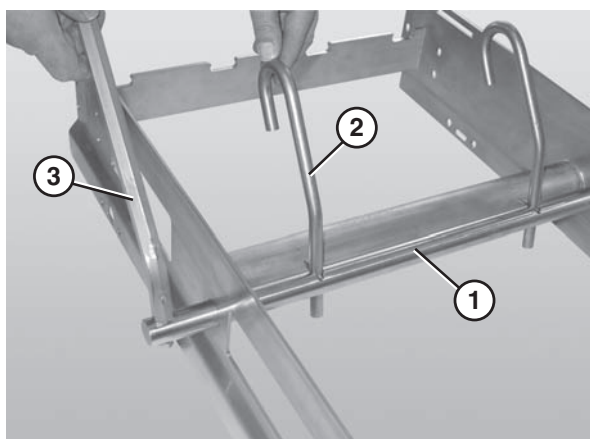

Figure 32
1. Slide the belt lift pivot bar (**Figure 32, item 1**) through the designated holes in the frame.
2. Attach the lifter bars (**Figure 32, item 2**) to the belt lift pivot bar (**Figure 32, item 1**). Make sure the hooked ends of the lifter bars are facing down when resting against the frame.
3. Attach the lifter handle (**Figure 32, item 3**) to the belt lift pivot rod.